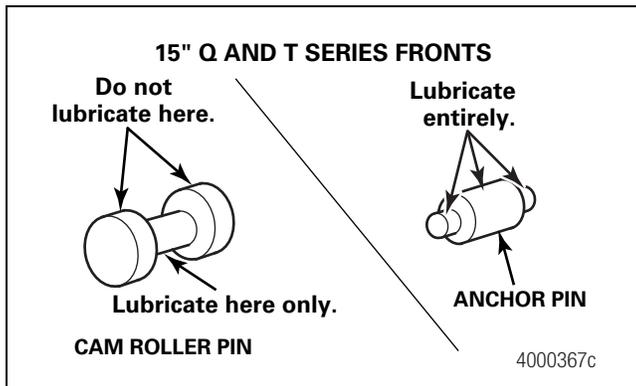

Figure 5.28
1. Lubricate the shoe rollers and anchor pins as shown in Figure 5.28. Use only Meritor-approved grease. Refer to Section 7 for approved grease specifications.